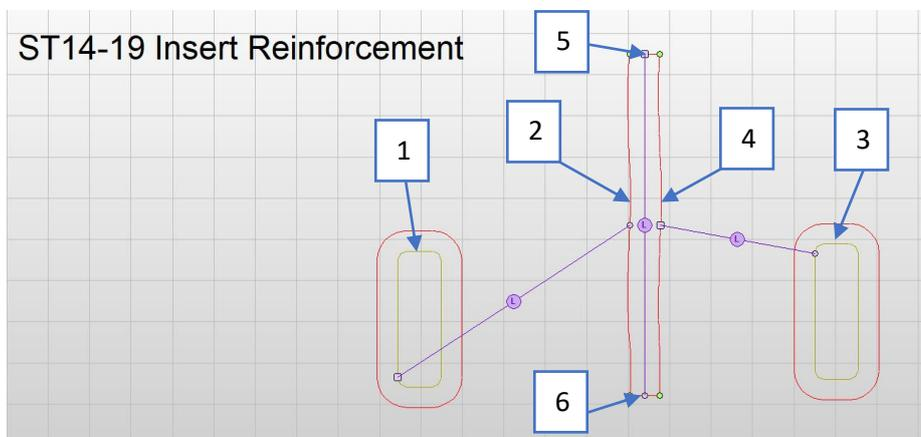

Figure 303
- 99. Next link all touching segments of our Insert Reinforcement MasterCuts together(Figure 303).